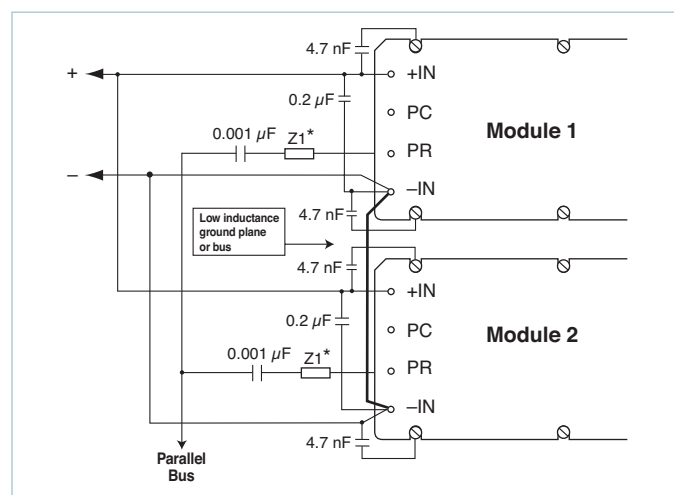

Figure 9 — AC coupled single-wire interface
**AC coupled single-wire interface.** All PR pins are connected to a single communication bus through 0.001µF (500V) capacitors. This interface supports current sharing and is fault tolerant except for the communication bus. Up to three converters may be paralleled by this method. See Figure 9.